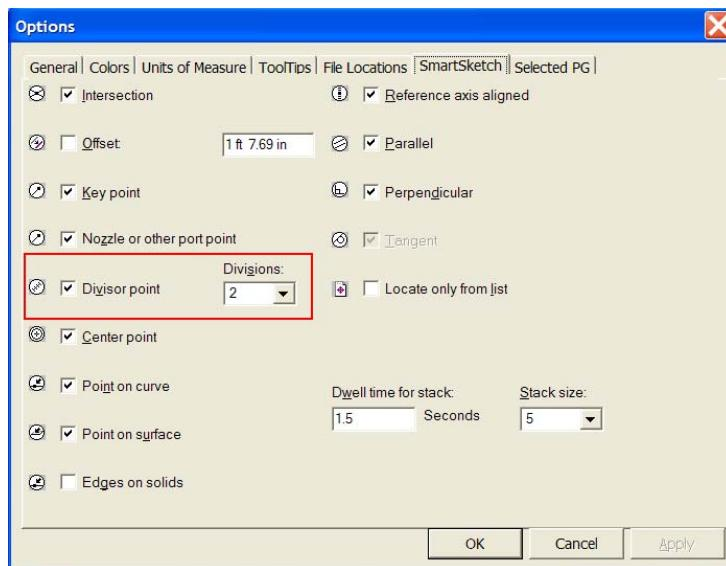

Figure 4: Divisor Point Option
- e. **Divisor point**—Displays a relationship indicator () when you move the cursor to the points where a line is divided equally into the number of divisions that you set. A drop-down list enables you choose from 2 to 7 divisions for a line (refer to Figure 4).